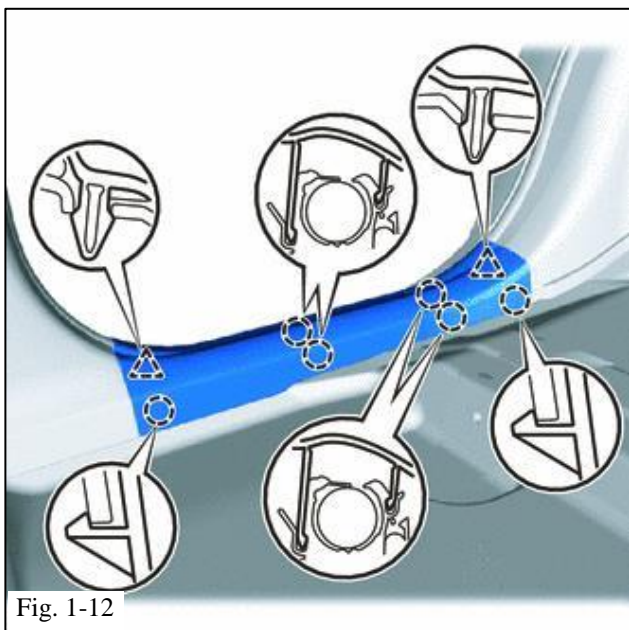

Fig. 1-12
- (i) Detach the two clips (\triangle) and six claws (\circ); then remove the rear door scuff plate RH (Fig. 1-12).